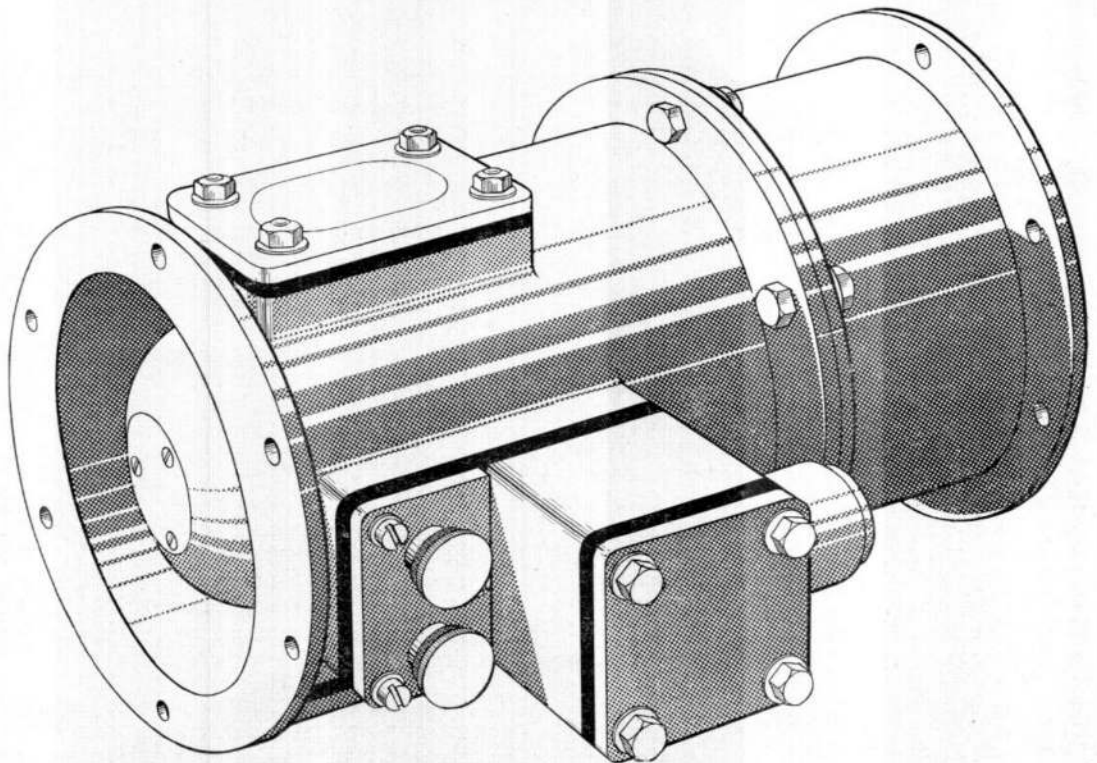
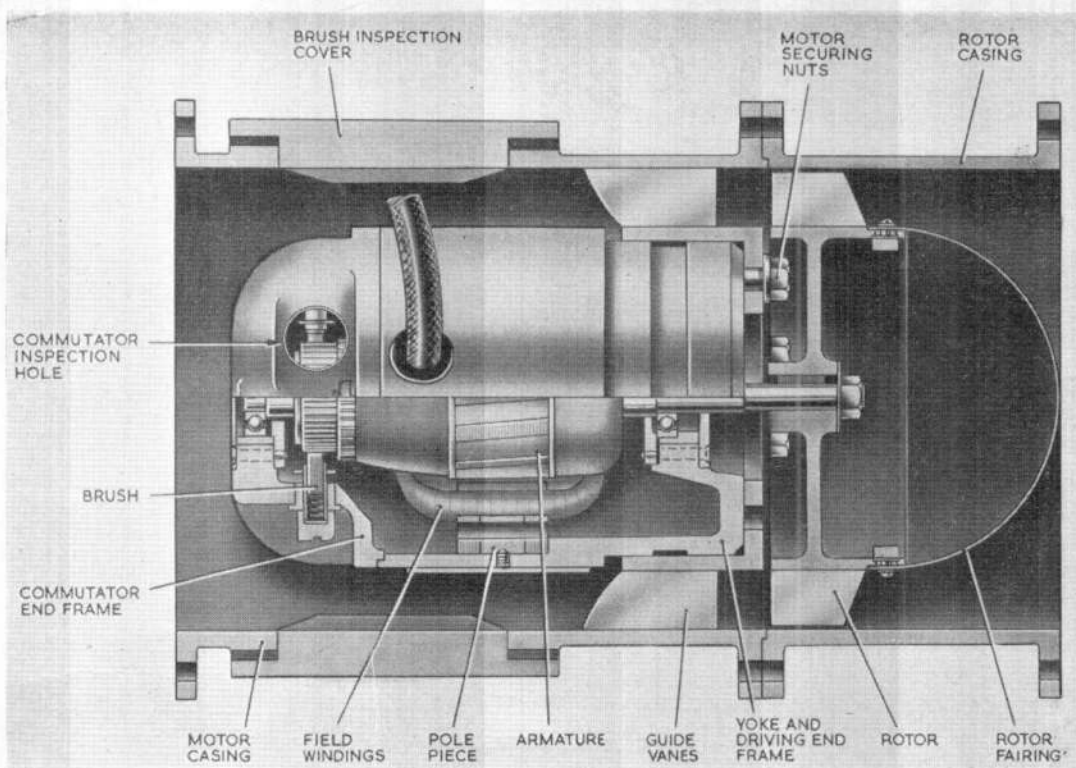

Fig. 1. Typical Airmax fan
Fig. 2. Sectional view of fan
2. A typical fan, the 5 in. Airmax No. 2, is illustrated in fig. 1, and a sectional view of the same fan in fig. 2. The machine consists of a cylindrical corrosion-proof aluminium casting, within which is fitted a rotor driven by a small series-wound motor, suitable for a 24-volt d.c. supply, and mounted to the guide vane hub. The rotor blades are of aerofoil section, the airflow being assisted by the guide vanes, which are also of aerofoil section.
3. The airflow is in the direction indicated in fig. 2, i.e., the intake is at the rotor end of the machine. If the fan is intended for use as a supply fan, it must be mounted
4. Access to the brushgear is gained by removal of the inspection doors shown in fig. 2, and the brushes removed by unscrewing the brush caps. In the smaller model it is necessary to remove the motor end cover.
5. Fig. 2 also shows two inspection holes, which have a Perspex cover through which the commutator is visible. These holes are not present on all fans, but when fitted enable undue sparking at the commutator to be detected.